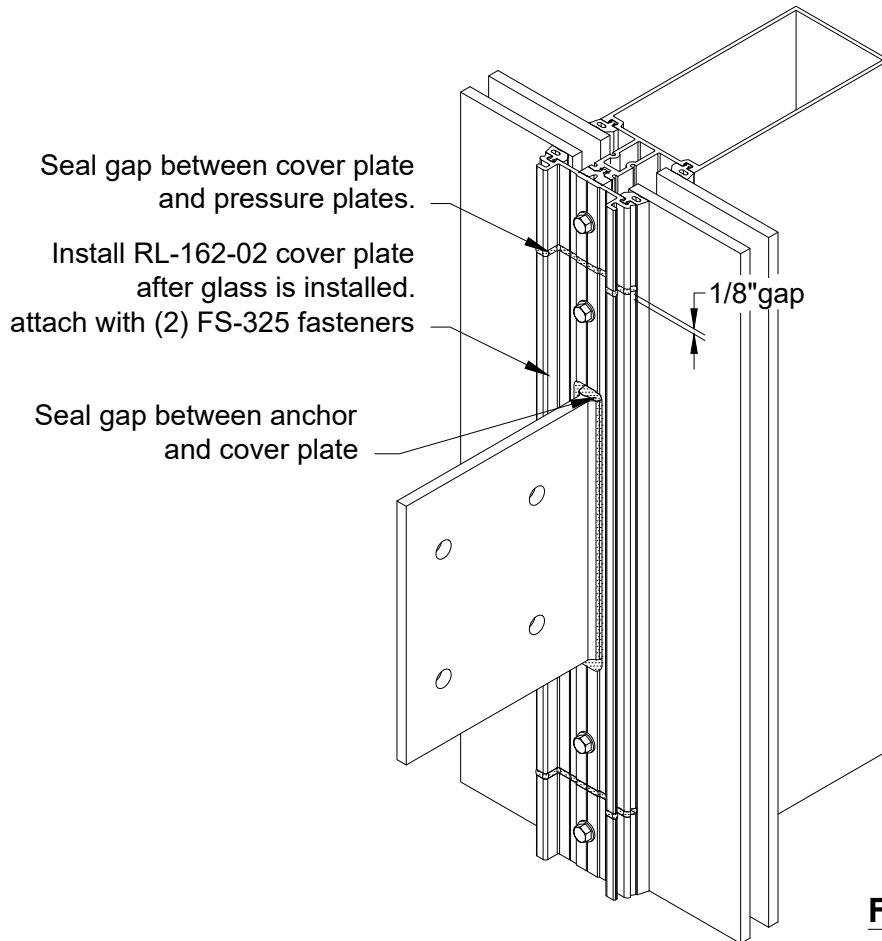

FIGURE 22
- 6) Clean all surfaces to be sealed using isopropyl alcohol. Then seal cover plate to anchor to prevent any water infiltration. See FIGURE 22
- 7) Pressure plates should be located above and below the cover plate allowing 1/8" joint. This joint should be cleaned and sealed. See FIGURE 22